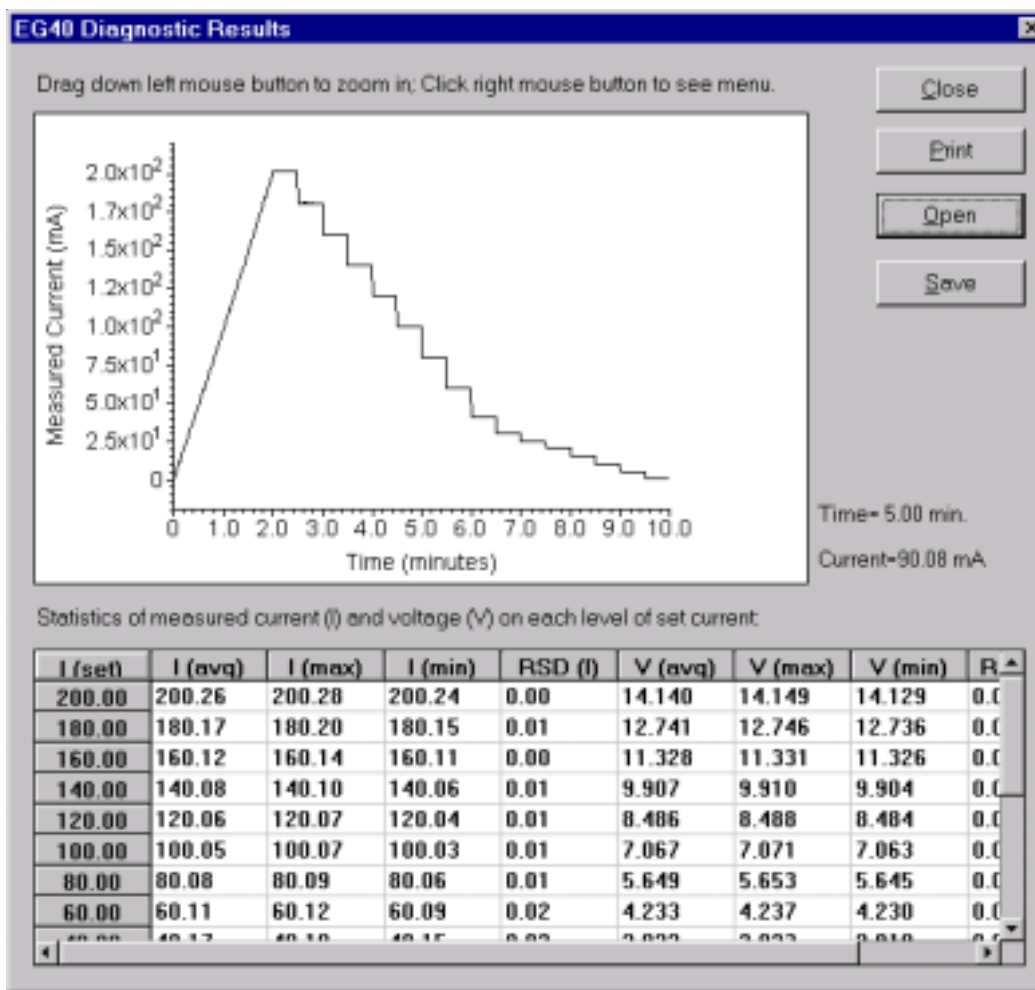

Figure 25
2. The diagnostic takes about 10 minutes to complete, after which a graph and table of data can be viewed. See Figure 25, “MSA Generator,” for an example of normal graph and data results.